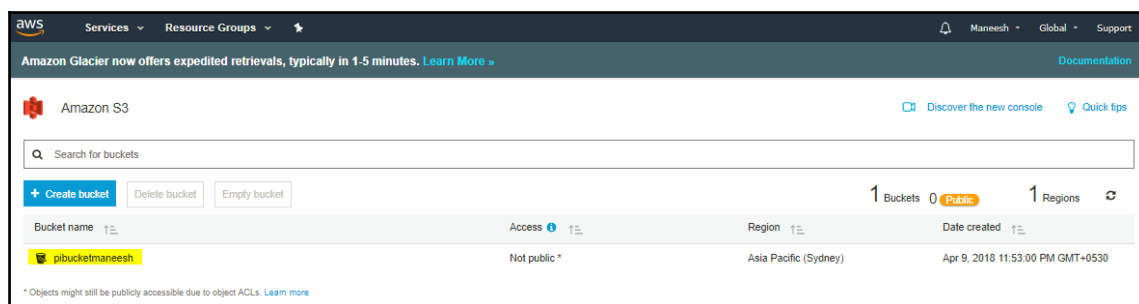

Figure 7.8
4. Click on **Next** for the next three steps by setting properties, setting permission, and finally saving the configuration and creating a bucket. After successful bucket creation, it will appear in S3 as shown in *Figure 7.8*: